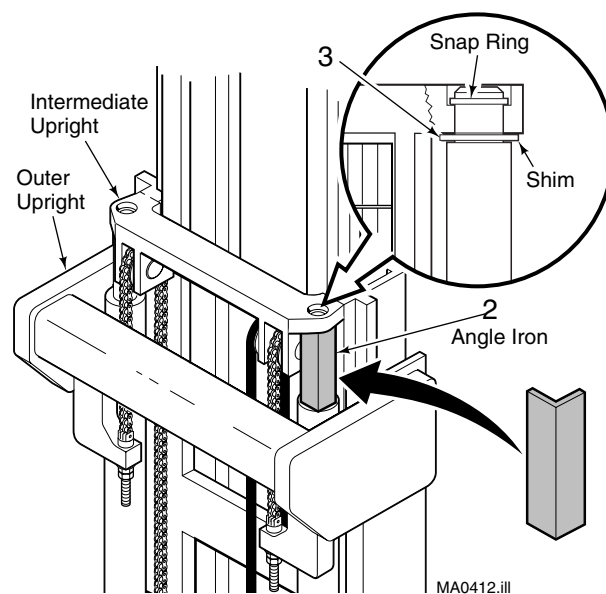

Figure 11. Three Stage Mast.
- Three Stage Masts** - Remove the snap ring from the cylinder to be adjusted. Open the truck valve to allow the center (free lift) cylinder to fully retract. Tap the main lift cylinder rod down past the crossmember to install the shim. Install shim(s) part no. 683797 to the cylinder rod below the intermediate upright crossmember. See Figure 11.